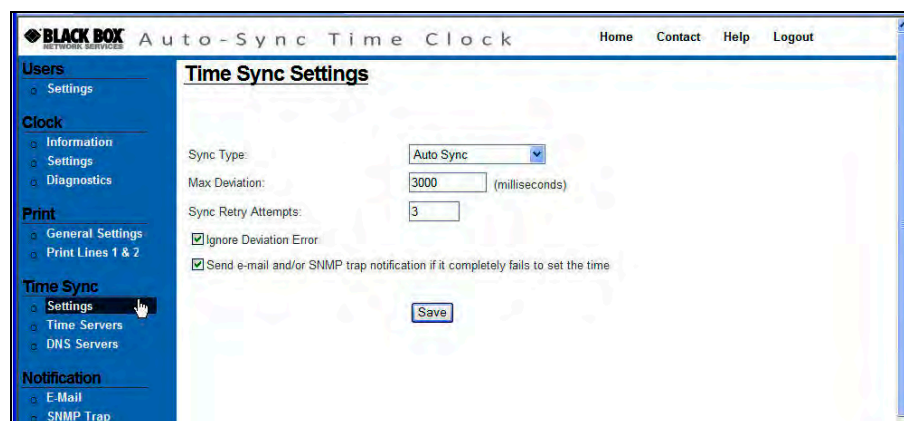

Figure 4-11. Time Sync Settings.
1. Click on the **Settings** link under Time Sync and the **Time Sync Settings** screen will appear (see *Figure 4-11*).